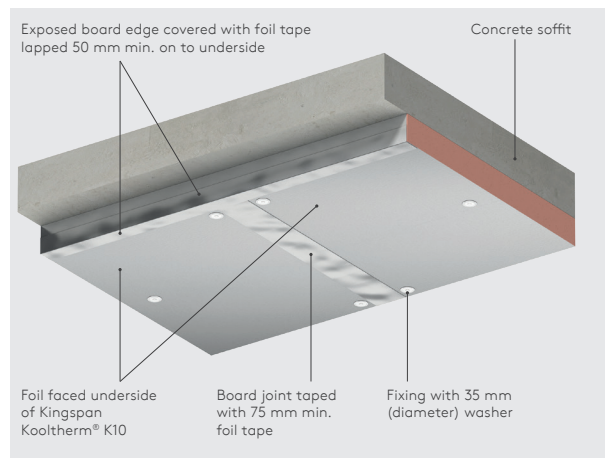

Figure 2 - Protection of exposed insulation edges of Kingspan Kooltherm® K10
- The joints of Kingspan Kooltherm® K10 should always be taped using a suitable 70 mm min. wide self-adhesive aluminium foil tape, with a 50 mm min. wide overlap onto the insulation board face (Figure 2).
- In the absence of other protection, exposed edges of Kingspan Kooltherm® K10 should be protected by a suitable self-adhesive aluminium foil tape, with a 50 mm min. wide overlap onto the insulation board face (Figure 2).